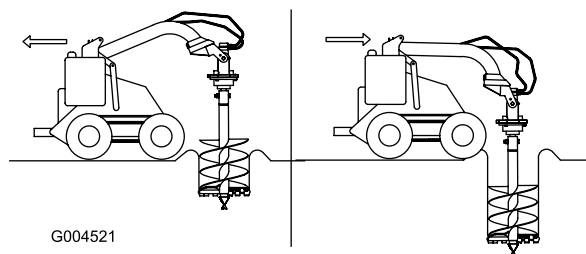

Figure 10
6. Lower the auger slowly as the soil is loosened. As you dig deeper, move the traction unit backward or forward as required to keep the auger vertical (Figure 10).